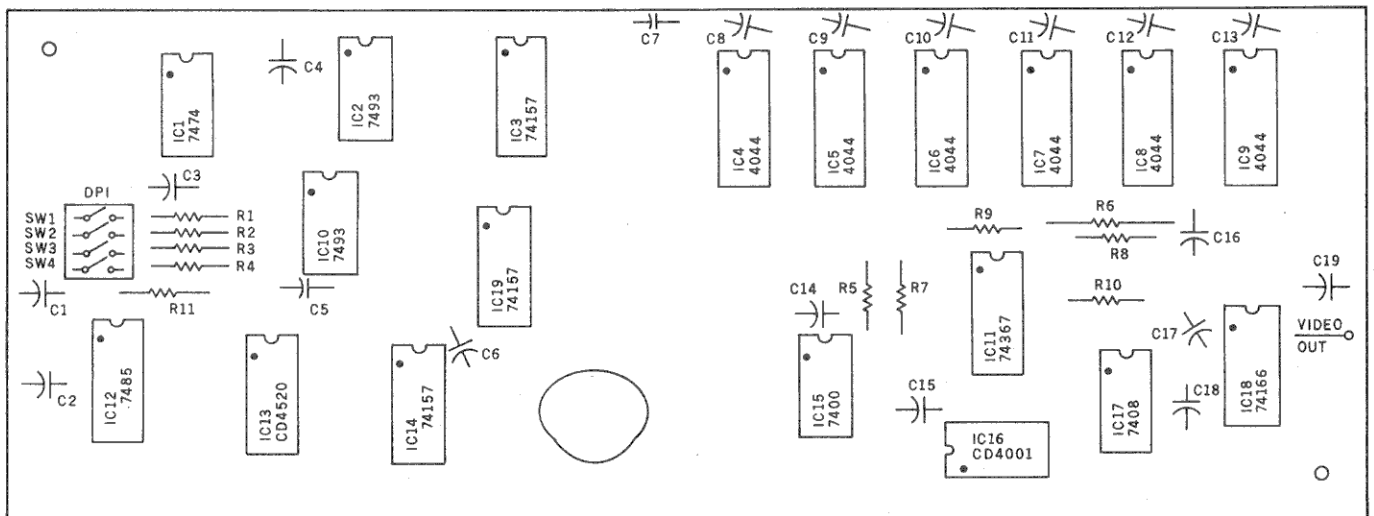

Fig. 1. All Series 74 chips are 74LS (Low Power Schottky).
□ Orient HR1 so that the side that says "video out" (on the right hand side of board) faces you. (See Fig. 1.)
Pin 1 on each IC, which is designated by a dot or is to the left of the notched edge of the chip as viewed from the top (Fig. 1).
□ Double-check orientation of Pin 1 on each IC according to the diagram in Fig. 1.